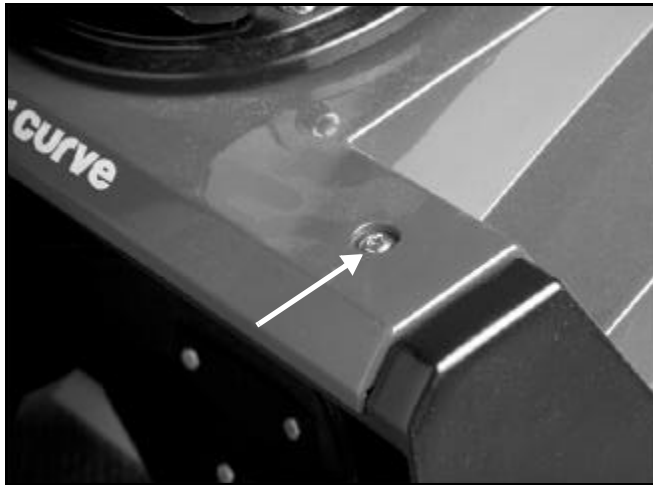

Figure 137
3. Remove the two bolts holding the upper shroud to the front housing (Figure 137).